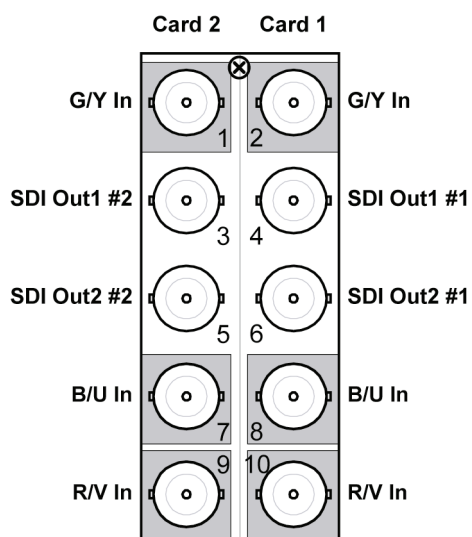

Figure 5. Cable Connections for the R2S-8733 Split Rear Module
- **R2S-8733** Split Rear Module — Each card occupies one slot and provides two SD-SDI outputs. Note that each rear module provides connections for two cards. (**Figure 5**)